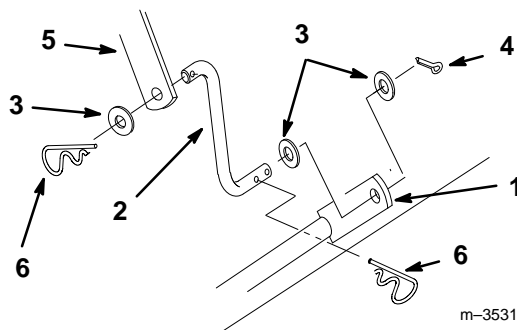

Figure 6
7. Install link to mower lift arm with 1" cotter pin, (2) 3/8" washers and a 2-9/16" hairpin cotter (Fig. 6). Attach rear link to tractor rear attachment lift arm with a 3/8" washer and a 2-9/16" hairpin cotter (Fig. 6).